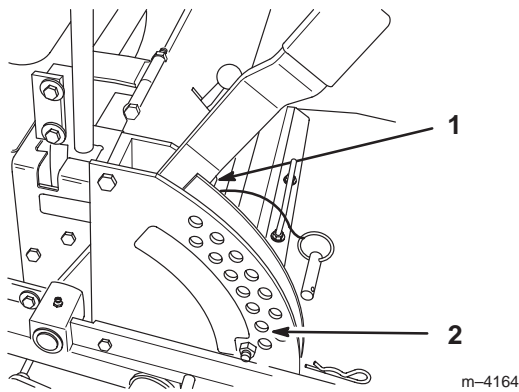

Figure 58
4. Raise the deck to the transport position and take all force off of the two large deck lift springs by loosening the nut in front of each spring (Fig. 58).
5. Place 2 thick blocks (1-1/2 inches [38 mm]) under the rear left and right lower edge of the mower. Place 1 block (2-1/4 inches [57 mm]) under the front center lower edge of the mower. Lower the mower to the 2 inch (51 mm) height-of-cut position (Fig. 58).
13. Raise the deck lift lever to the transport position (Fig. 58).